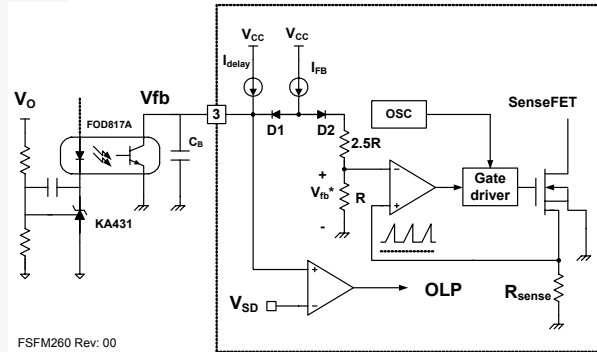

Figure 17. Pulse Width Modulation (PWM) Circuit
2. Feedback Control: FSFM260/300 employs current-mode control, as shown in Figure 17. An opto-coupler (such as the FOD817A) and shunt regulator (such as the KA431) are typically used to implement the feedback network. Comparing the feedback voltage with the voltage across the R_{SENSE} resistor makes it possible to control the switching duty cycle. When the reference pin voltage of the shunt regulator exceeds the internal reference voltage of 2.5V, the optocoupler LED current increases, pulling down the feedback voltage and reducing the duty cycle. This typically occurs when the input voltage is increased or the output load is decreased.
2.1 Pulse-by-Pulse Current Limit: Because current-mode control is employed, the peak current through the SenseFET is determined by the inverting input of the PWM comparator (V_{FB}^*), as shown in Figure 17. When the current through the opto-transistor is zero and the current limit pin (#4) is left floating, the feedback current source (I_{FB}) of 0.9mA flows only through the internal resistor ($R+2.5R=2.8k$). In this case, the cathode voltage of diode D2 and the peak drain current have maximum